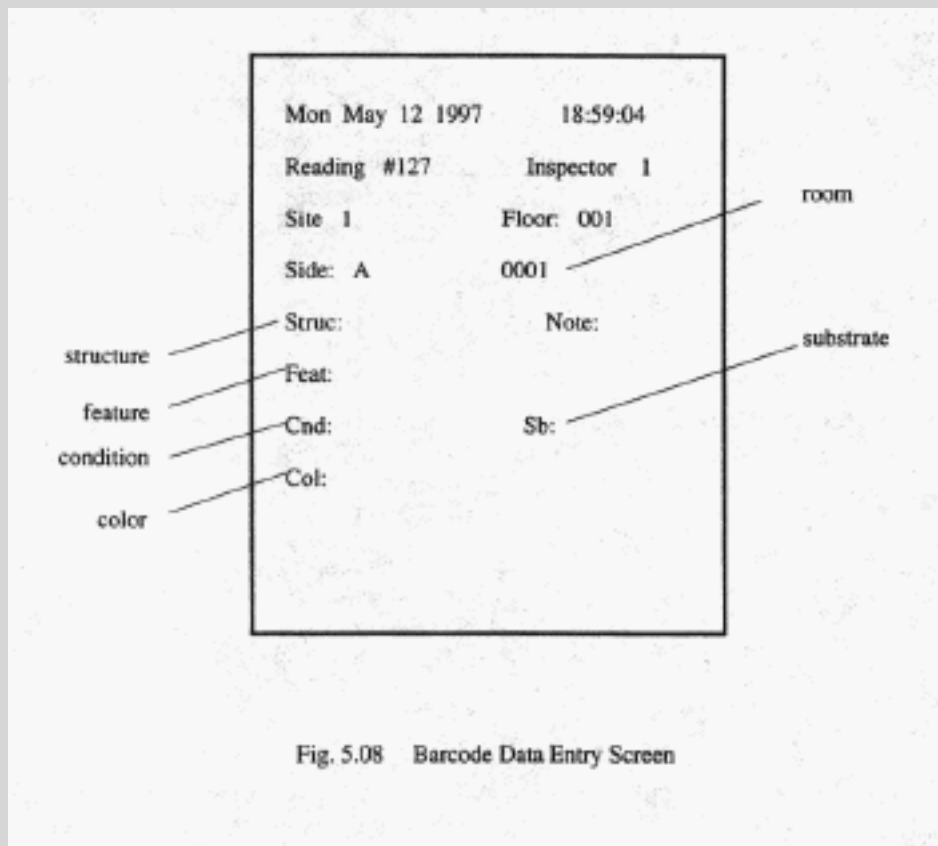

Fig. 5.08 Barcode Data Entry Screen
2. **When you are using the Barcode Data Entry System:** Attach the light pen bar-code reader and wrist-mounted bar codes. Flick the **Barcode Reader** across one of the bar codes to display the **Data Entry screen (Figure 5.08)**. Enter the test location and other test information with the **Barcode Reader**.